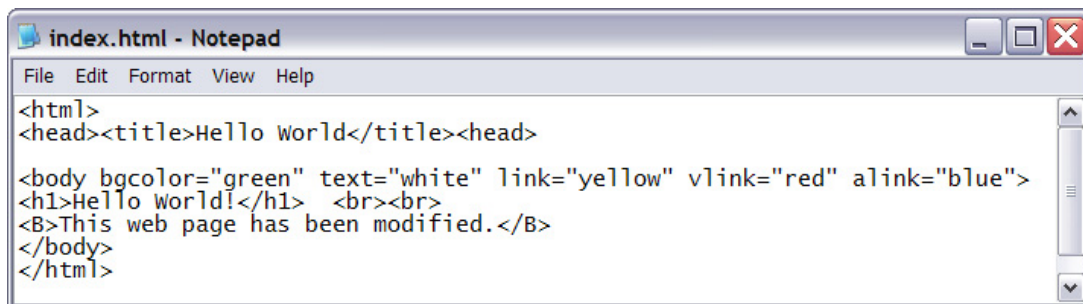

Figure 27. Modifying the HTML Source
2. Modify the HTML source to make the web page noticeably different. This can include changing the background color or the text. Figure 27 shows the text changed to “This web page has been modified”. Save the HTML source file when done.